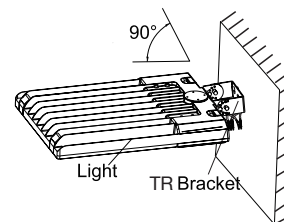

Figure 16
Step 3. Connect the fixture to the bracket and tighten the screws; connect the fixture wiring to the appropriate supply conductors and put them into junction box. (Fig. 16) Notice: Adjustable angle is 0-90° (Fig. 16)